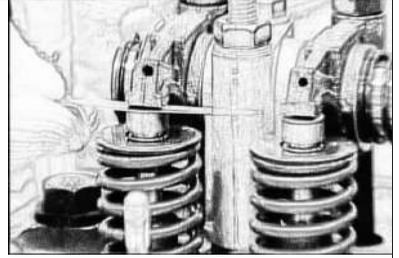

Fig 5-19 Valve Clearance Measured by Proof Stick
2.8 The valve sequence is; counted from front side of the engine, odd number is Intake valve, even number is exhaust valve. Intake valve clearance is 0.3~0.4mm, Exhaust valve clearance is 0.4~0.5mm (see Fig 5-19).